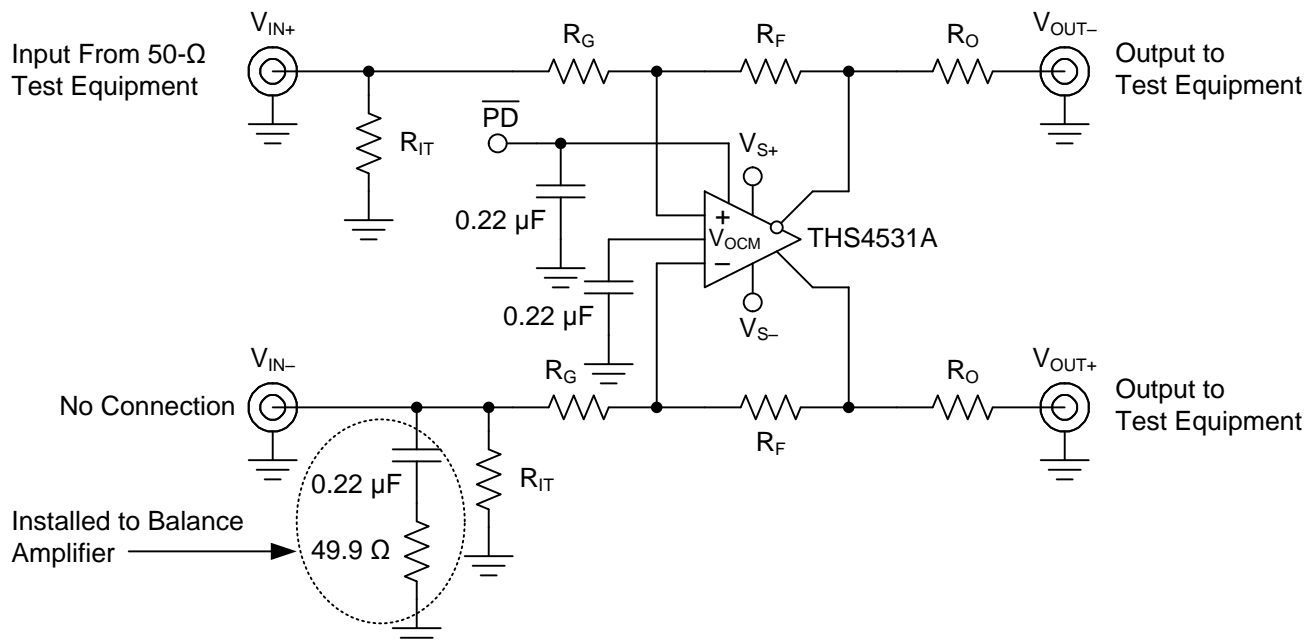
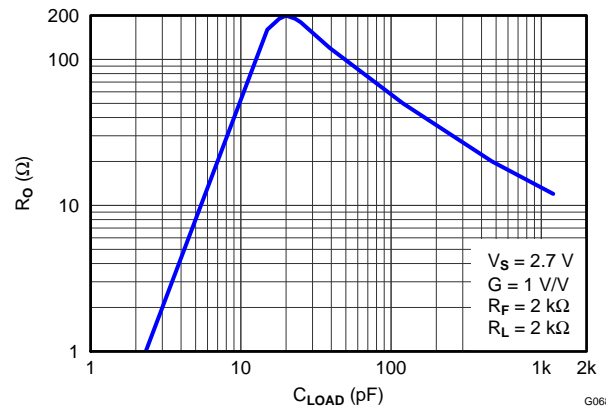
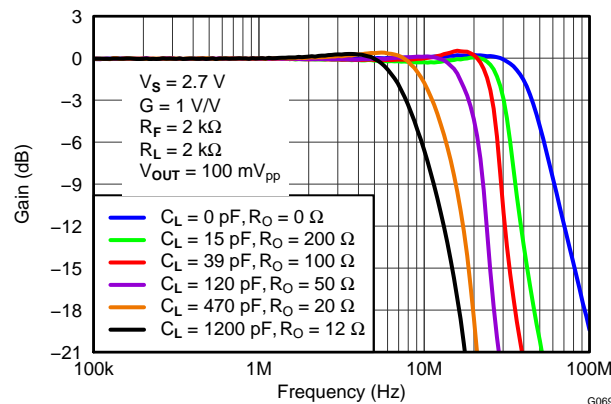

Figure 69. Slew Rate, Transient Response, Settling Time, Z_O , Overdrive Recovery, V_{OUT} Swing, and Turn-on/off Test Circuit
Figure 80. Recommended Series Output Resistor vs Capacitive Load for Flat Frequency Response
Figure 81. Frequency Response for Various R_O and C_L Values
The circuit shown in Figure 69 is used to measure slew rate, transient response, settling time, overdrive recovery, and output voltage swing. Turn on and turn off times are measured with 50 Ω input termination on the \overline{PD} input, by replacing the 0.22 μ F capacitor with 49.9 Ω resistor.
Inserting R_O will compensate the phase shift and restore the phase margin, but it will also limit bandwidth. The circuit shown in Figure 69 is used to test for best R_O versus capacitive loads, C_L , with a capacitance placed differential across the V_{OUT+} and V_{OUT-} along with 2k Ω load resistor, and the output is measure with a differential probe. Figure 80 shows the optimum values of R_O versus capacitive loads, C_L , and Figure 81 shows the frequency response with various values. Performance is the same on both 2.7V and 5V supply.
4. A series output resistor is recommended to be placed as near to the output pin as possible. See Figure 80 "Recommended Series Output Resistor vs. Capacitive Load" for recommended values given expected capacitive load of design.